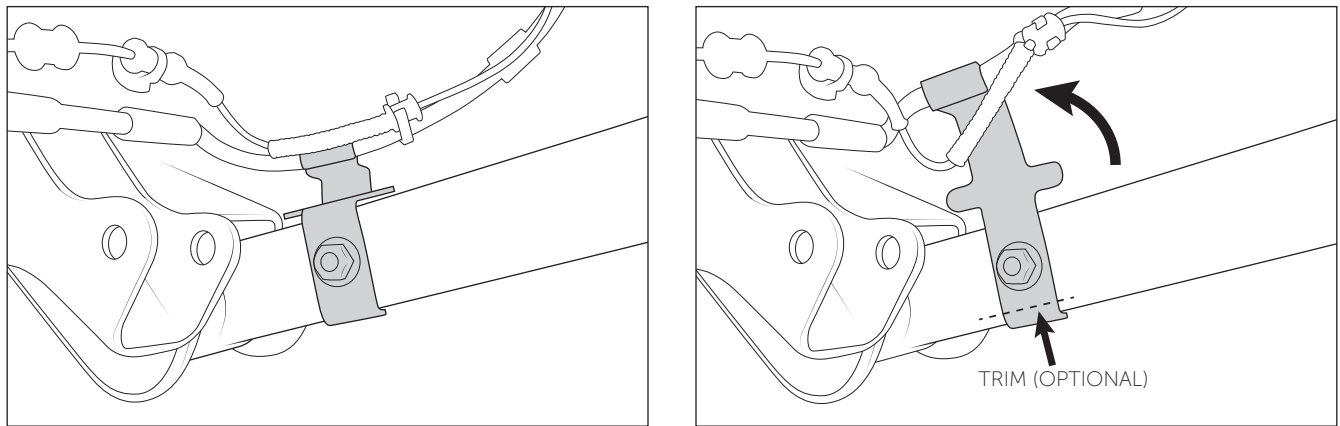

Figure 15: Before (left) After (right)
7. **IMPORTANT STEP PLEASE FOLLOW CLOSELY.** Bend brake line brackets on lower control arms flat/up to allow extra travel relative to frame (Fig 15). Be sure to check brake line to control arm clearance again at ride height. Bracket can be adjusted further to ensure proper clearance; see page 11 step 17. On vehicles that will be rock crawling, AEV suggests trimming off the bottom tab of these brackets below the mounting hole to eliminate a snag point.